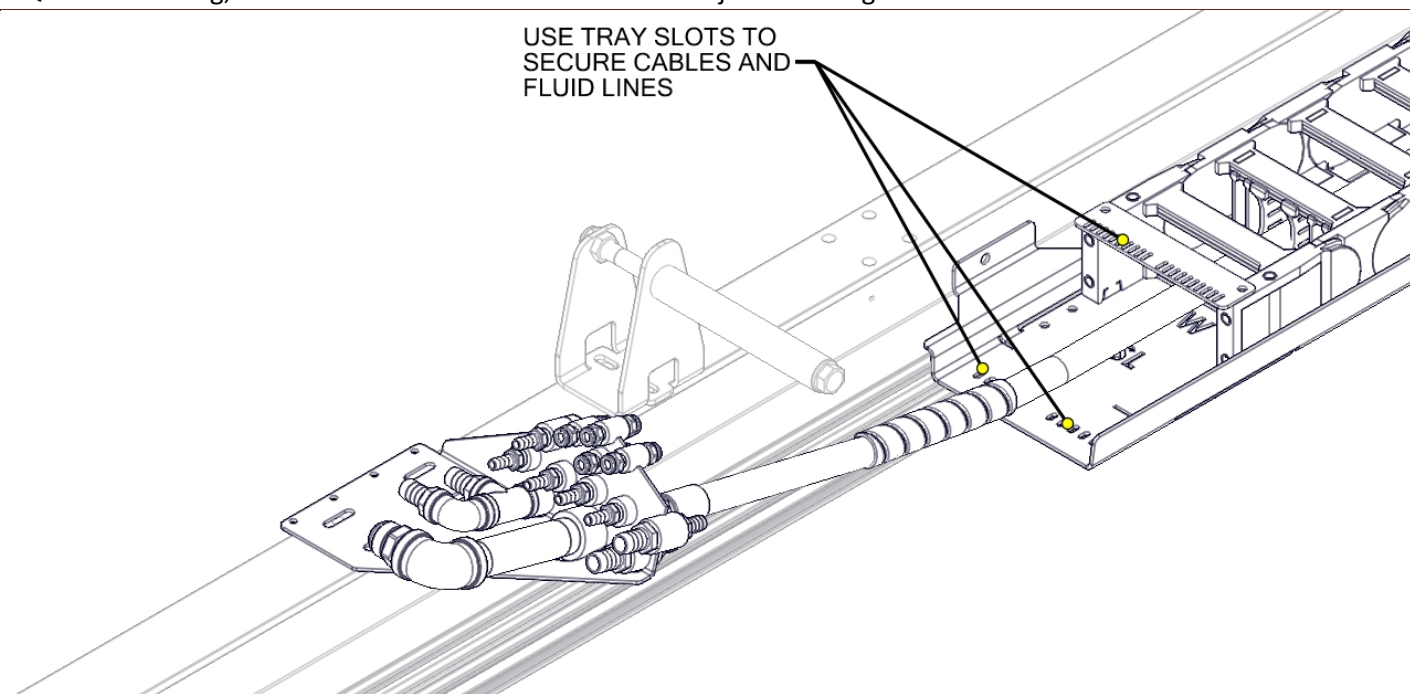
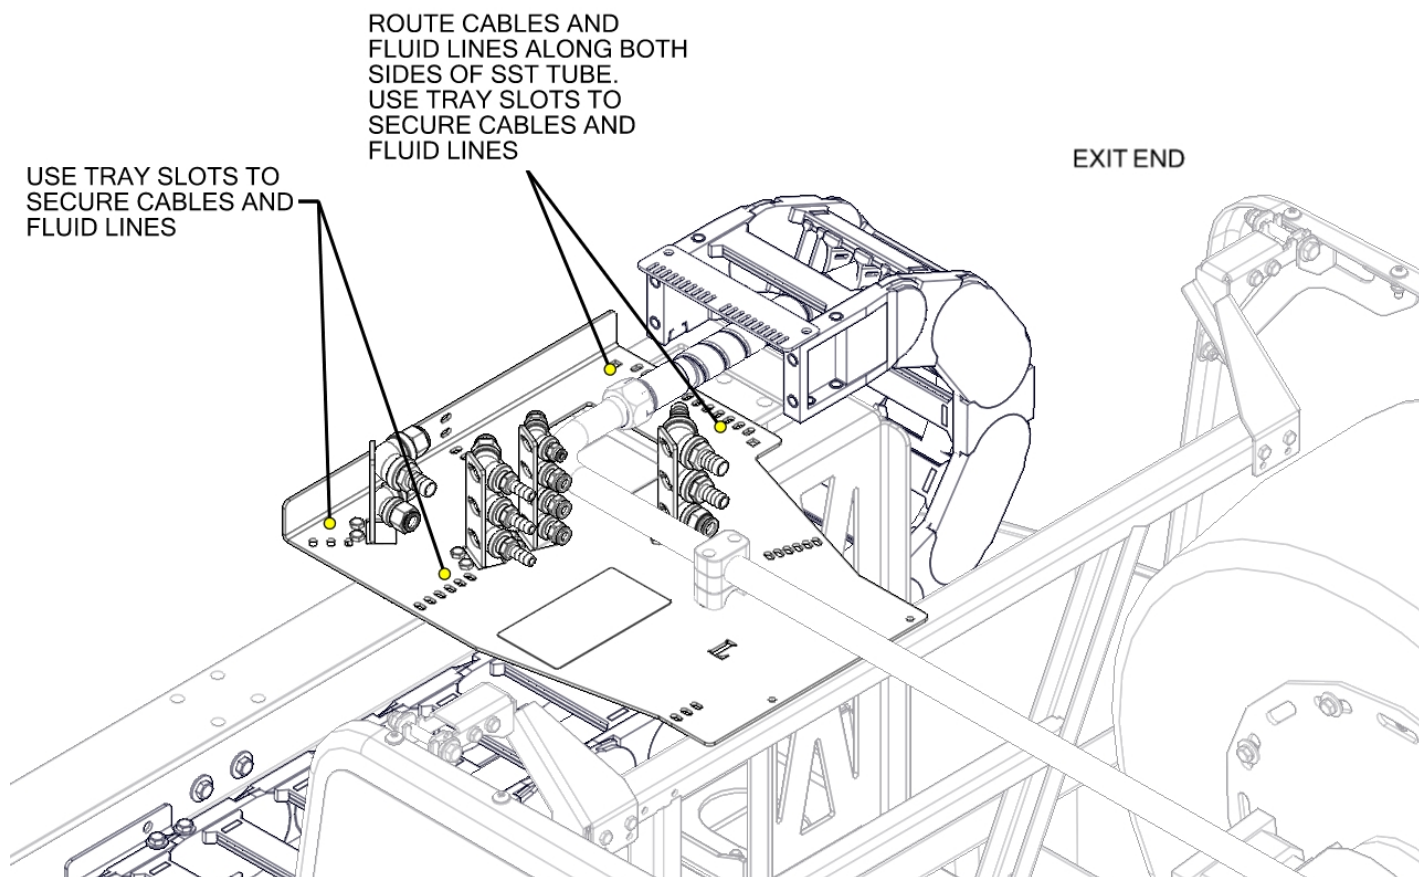

Figure 83 - Securing Cables and Fluid Lines at the Fixed End of the E-chain
Figure 84 - Securing Cable and Fluid line at the Moving End of the E-chain
- When proper position is established, secure cables and fluid lines firmly at both ends of the E-chain as shown in Figure 83 and Figure 84. Use cable ties (site provided) to secure them on the E-chain cable tie fingers or the slots in the tray and the mounting bracket. Each cable and fluid line should be secured with an individual cable tie.